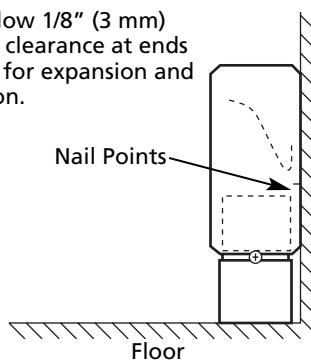

Figure 3 – Installation of Heater
1. Position the heater at the desired location on the wall as shown in Figure 3. For maximum heating comfort, position the heater under a window.